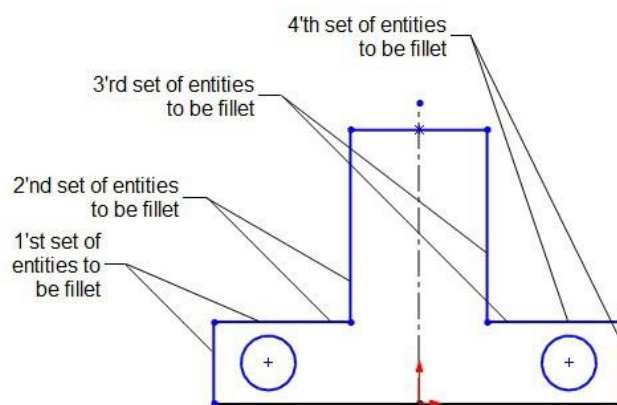

Figure 3-19 Sets of entities to be filleted
2. Select the first set of entities to be filleted, refer to Figure 3-19; the preview of the fillet with the default radius is displayed. Next, select the second, third, and fourth set of entities to be filleted one by one, refer to Figure 3-19.